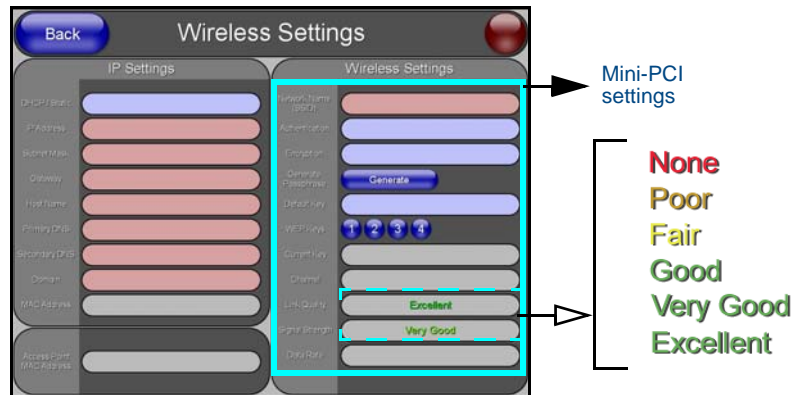

FIG. 59 Wireless Settings page (showing default values)
6. From within the *Wireless Settings* section of the *Wireless Settings* page, touch the *Network Name (SSID)* field (FIG. 59).
- The bargraphs have been replaced with descriptions: **None**, **Poor**, **Fair**, **Good**, **Very Good**, and **Excellent** (FIG. 59).